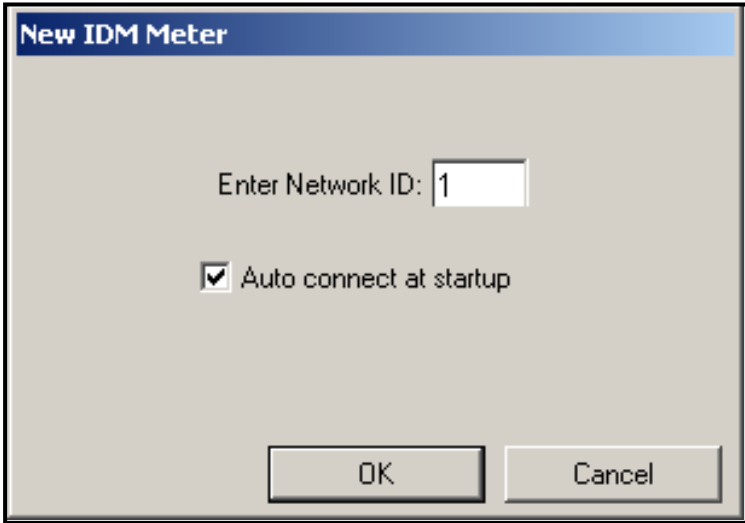

Figure 36: New IDM Meter Screen
4. The *New IDM Meter* screen (see *Figure 36* below) opens. Enter the Network ID number for the meter, and click [OK].